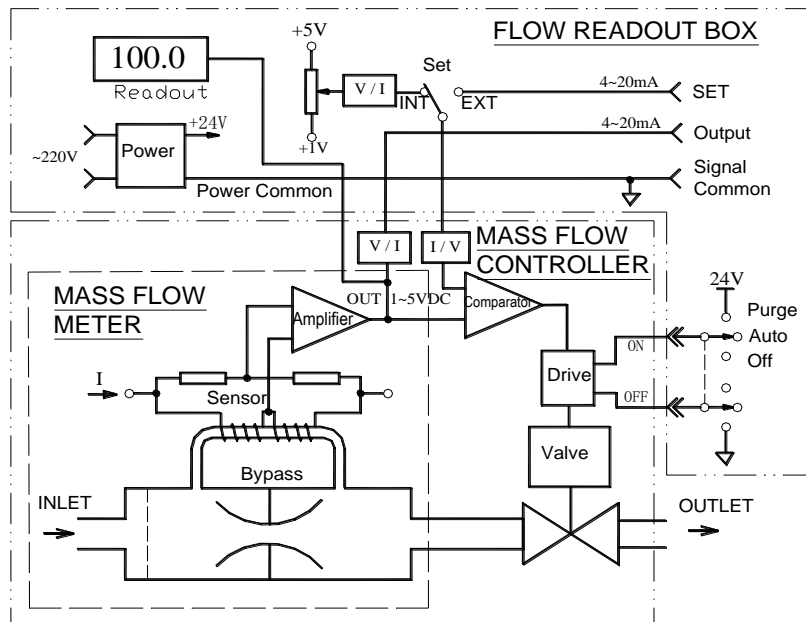
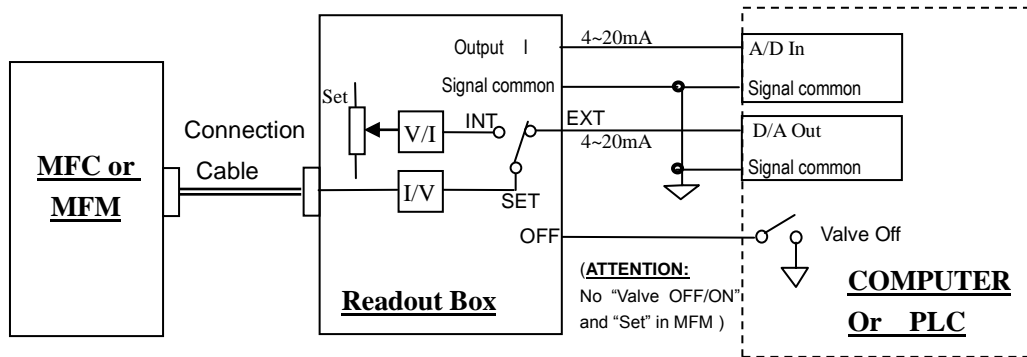

Figure3. Principle of MFC
Figure10. Connection with PC through Readout Box
According to the Capillary Heat Transfer Temperature Difference Calorimetry Theory, the flow sensor measures the mass flow without pressure compensation. The sensor heated the flow signal which was measured by electric bridge and amplified it through amplifier, the amplified flow testing voltage is compared with presetting voltage, the differential signal will control valve after amplified, then the flow rate of closed loop control will be as same as presetting flow rate. The bypass divider controls the flow rate. The corresponding D08 series Flow Readout Boxes have stabilized power supply, 3 and 1/2 digital voltage meter, presetting potentiometer, external & internal converters and three-phase switches. Figure 3 is exactly showing the operating principle while MFC is connecting with Flow Readout Box.
- a. Connection through Flow Readout Box with PC or other external signal. (Figure 10)
If PC or PLC need perform the OFF function of valve control, it could be accomplished by use one RELAYS (two sets) transfer contacts, showing in Figure 10.
Please find the reference in Figure 1 and Figure 10, it should set the switch of Readout Box to the “External” and turn the switch to the position of “CONTROL”, and then startup PC.
When the valve switch sets to “CONTROL” position, users could perform valves control by “CONTROL” wire of external control signal socket, please find the reference in Figure 3 and Figure 10. When valve control wire connects with +15 V, valves will be shutoff; when valve control wire connects with -15 V, valves will be turned to the top of maximum to purge position; when valve control wire hangs in the air, it's in the auto-control situation.